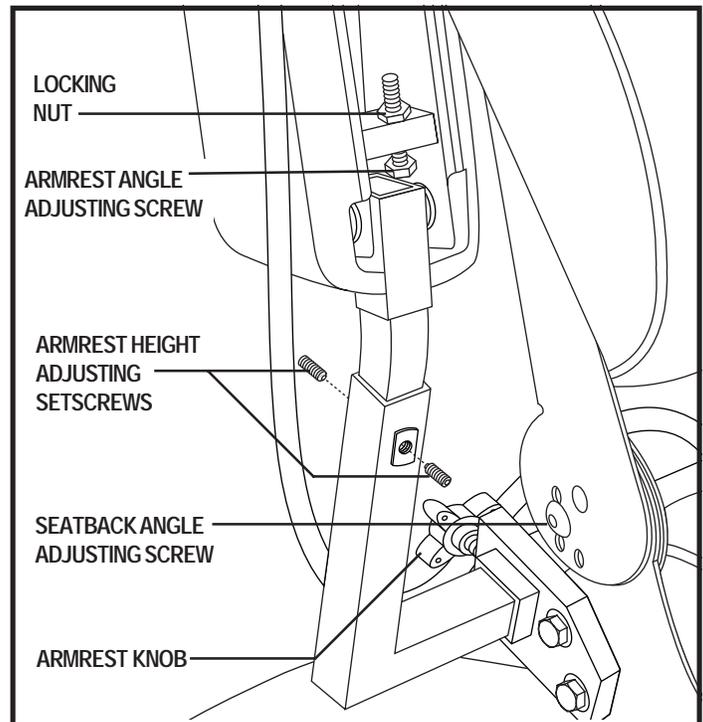

Figure 16. Seatback/Armrest Adjustment
1. Remove the seatback angle adjusting screws from each seat hinge. See figure 16.
1. Locate the two armrest knobs on each side of the armrest receiver bracket. See figure 16.
1. Lift the armrest straight up so that it is perpendicular to the floor. See figure 16.
1. Loosen the two setscrews located on the armrest receiver. See figure 16.